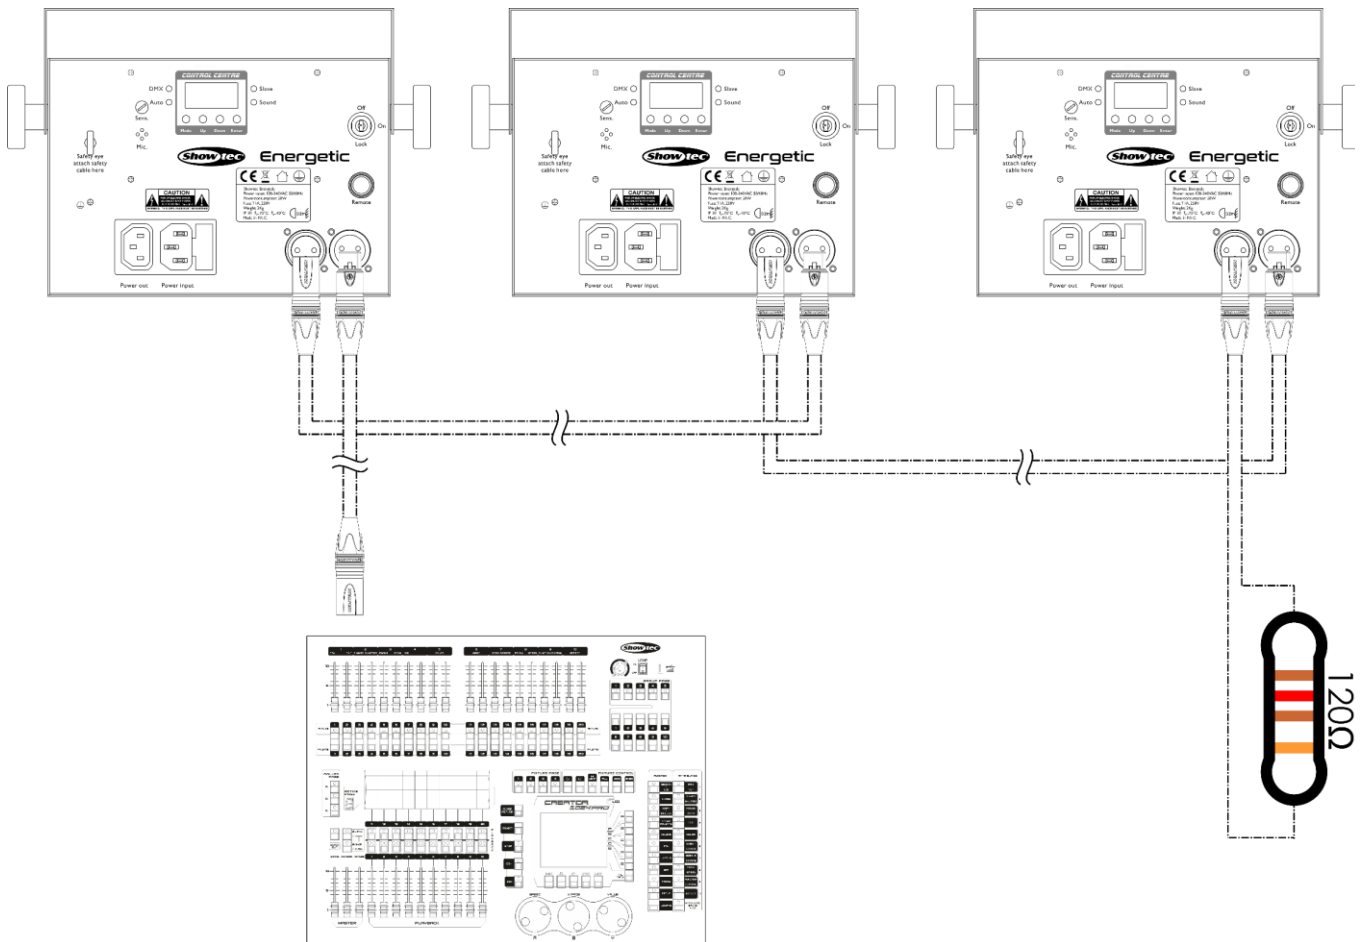

Fig. 07
- 04) Link the units as shown in Fig. 07. Connect the first unit's DMX "out" socket with the second unit's "in" socket, using a DMX signal cable. Repeat this process to link the second and third units.